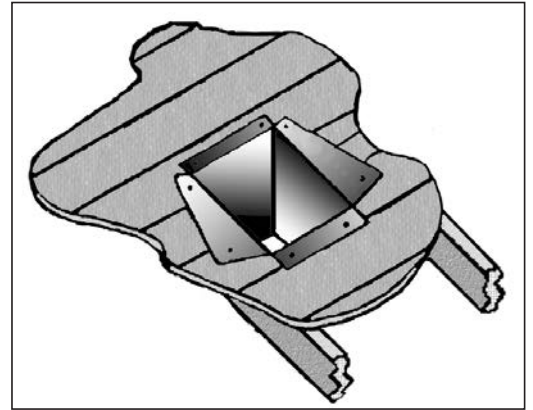

Figure 34: Cathedral Ceiling Support Box Installation.
- Using tin snips, cut the "Support Box" from the top corners down to the roof line, and fold the resulting flaps over the roof sheathing (Figure 34). Before nailing it in to the roof, run a bead of non-hardening mastic around the top edges of the "Support Box", to make a seal between the box and the roof. Clean out any combustible material from the inside of the "Support Box".